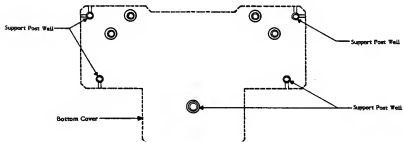

Figure 3-1. Support Post Wells
- Place the bottom cover over the top cover and push the two covers together. They will snap in place where there are support posts (see Figure 3-1).